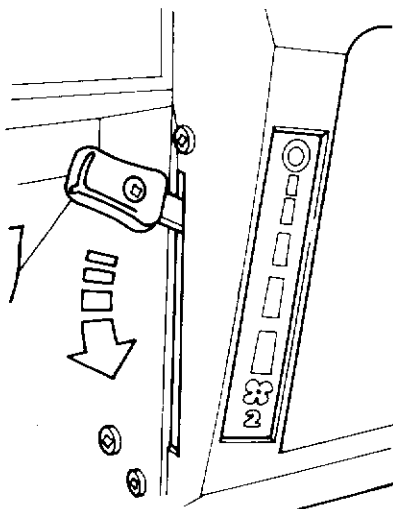

Figure 1-4 Heater fan control
- a. When the lever is in the upper position (see Fig. 1-4) the heating and ventilation system is inoperative.